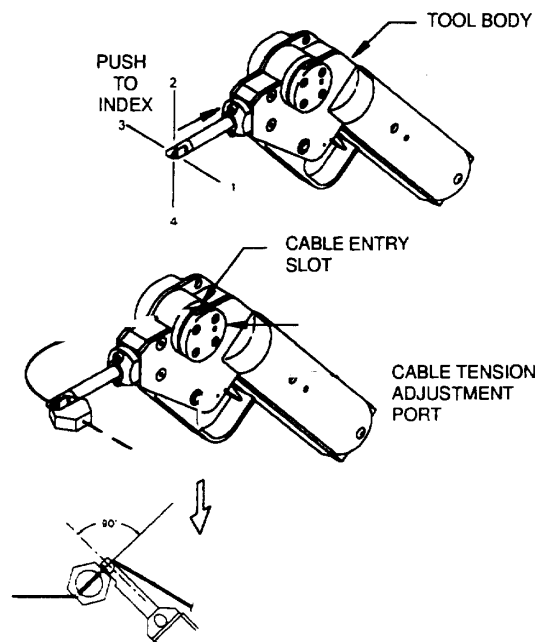

Figure 2-99. Pneumatic Safety Cable Application Tool
c. The Pneumatic Safety Cable Application Tool. (See figure 2-99). Connect the pneumatic safety cable tool to a clean, dry air supply of 80 to 100 psi.
(1) Install the safety cable through the fasteners which are to be secured.
(2) The nose can be indexed to four positions in 90 increments. To select the position, push the nose in towards the tool and rotate to the desired position. Release the nose. If the nose does not lock into the indexed position, turn it slightly until it snaps into position and locks.